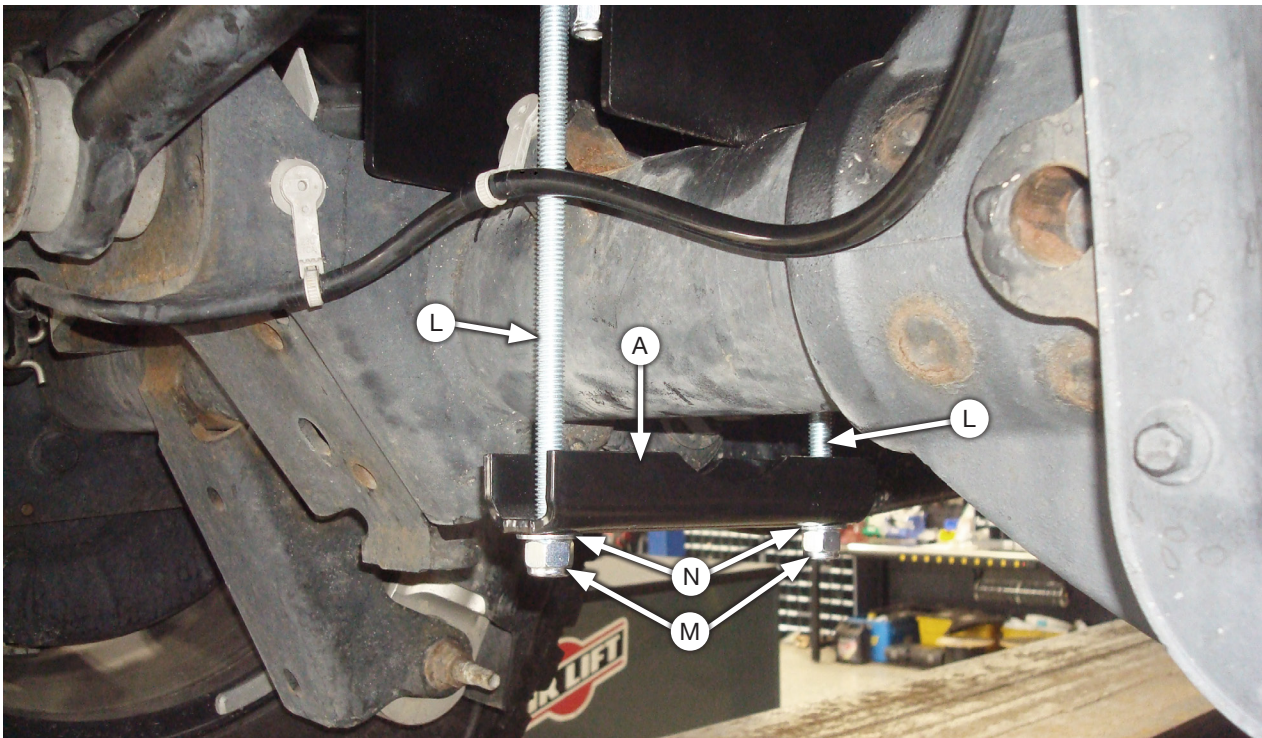

Fig. 6
2. Place the clamp bar (A) over the carriage bolts (L). Install a 3/8" flat washer (N) and 3/8"-16 nylon lock nut (M) onto each carriage bolt (Fig. 6). It is important to leave the clamp bars loose at this time.